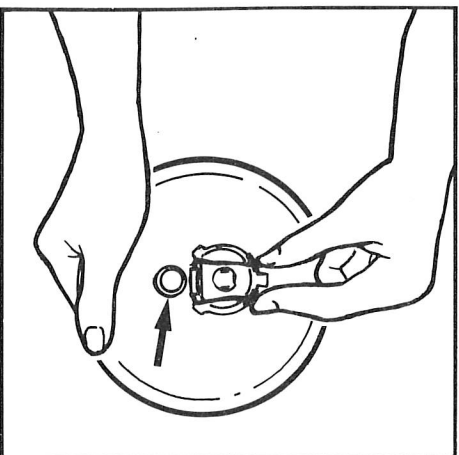

Fig. 32 Headlamp Rear.
- Lever the side light attachment out to reveal bulb. See Fig. 32. Replace bulb. Insert bulb holder back into the aperture.